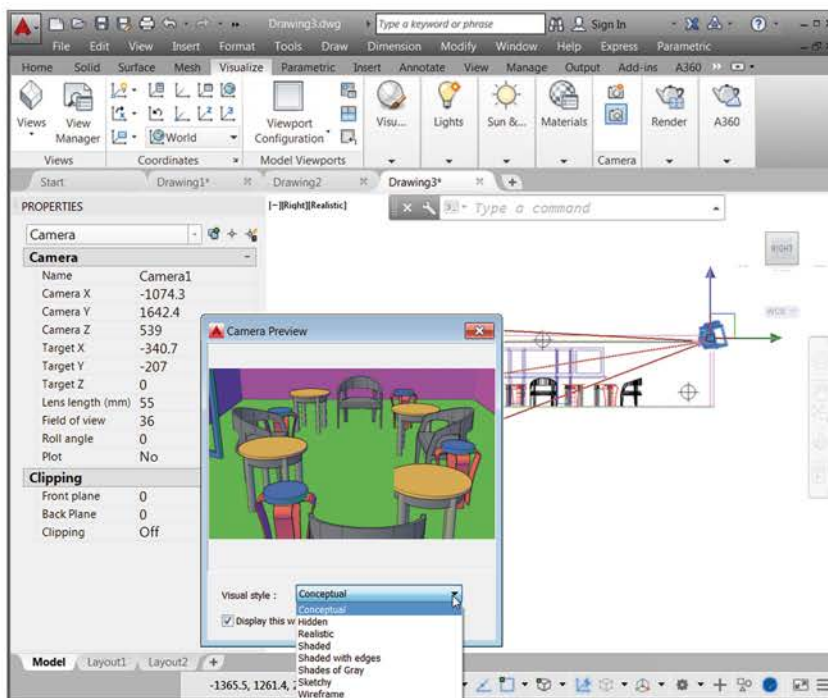

Fig. 16.46 The Properties palette, the Camera Preview dialog box and the camera glyph with the move gizmo
3. A click on the camera glyph opens the **Camera Preview** dialog box. The visual style for the preview can be chosen from the **Visual Style** drop-down list. (Fig 16.46). The **Properties** palette gives access to the camera parameters. The camera position can be changed by dragging the axis of the **Move Gizmo**.